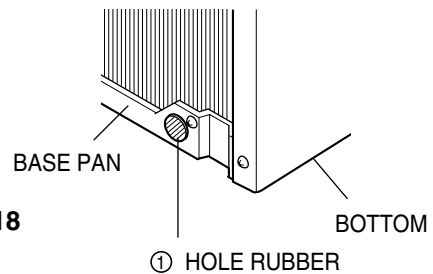

Figure 18
If the air conditioner is used in hot and a high humidity zone, exchange the ① HOLE RUBBER for the ② DRAIN PIPE. (See figure 18, figure 19.)